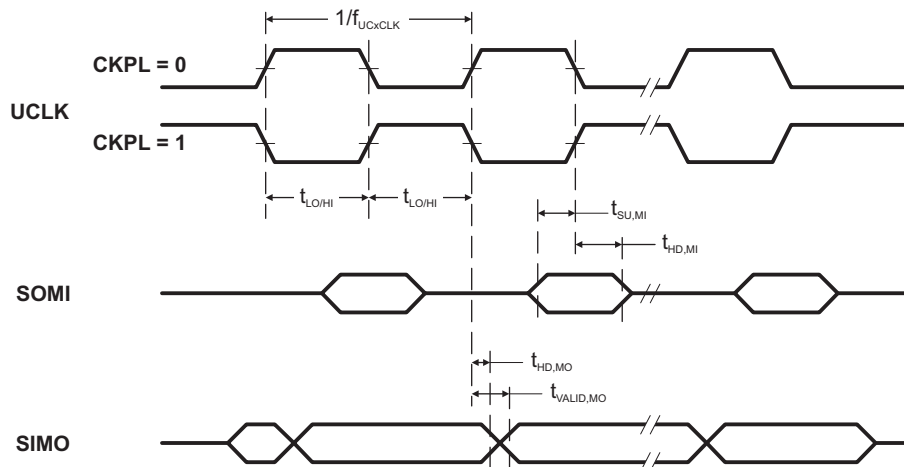
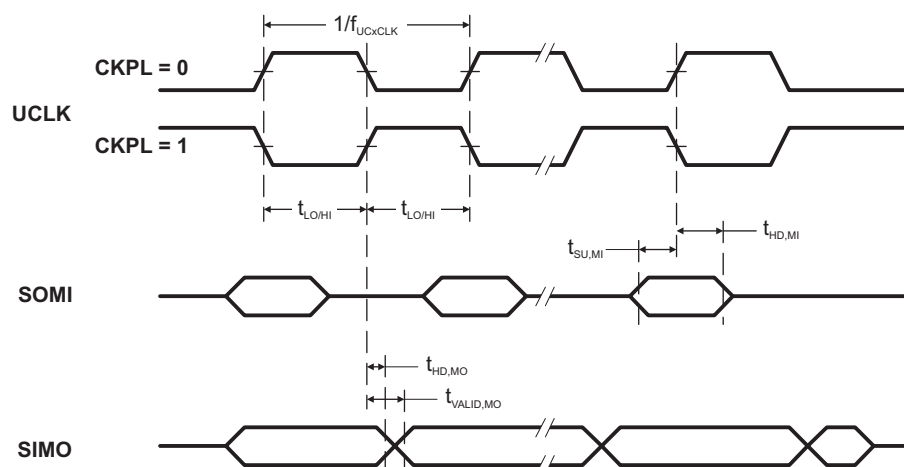

Figure 11. SPI Master Mode, CKPH = 0
Figure 12. SPI Master Mode, CKPH = 1
(see Note ⁽¹⁾, Figure 11 and Figure 12)
- (1) f_{UCXCLK} = 1/2(t_{LO/Hi} with t_{LO/Hi} ≥ max(t_{VALID,MO}(USCI) + t_{SU,SI}(Slave), t_{SU,MI}(USCI) + t_{VALID,SO}(Slave)). For the slave's parameters t_{SU,SI}(Slave) and t_{VALID,SO}(Slave) see the SPI parameters of the attached slave.
- (2) Specifies the time to drive the next valid data to the SIMO output after the output changing UCLK clock edge. See the timing diagrams in Figure 11 and Figure 12.
- (3) Specifies how long data on the SIMO output is valid after the output changing UCLK clock edge. Negative values indicate that the data on the SIMO output can become invalid before the output changing clock edge observed on UCLK. See the timing diagrams in Figure 11 and Figure 12.
(2) Specifies the time to drive the next valid data to the SOMI output after the output changing UCLK clock edge. See the timing diagrams in Figure 11 and Figure 12.
(3) Specifies how long data on the SOMI output is valid after the output changing UCLK clock edge. See the timing diagrams in Figure 11 and Figure 12.